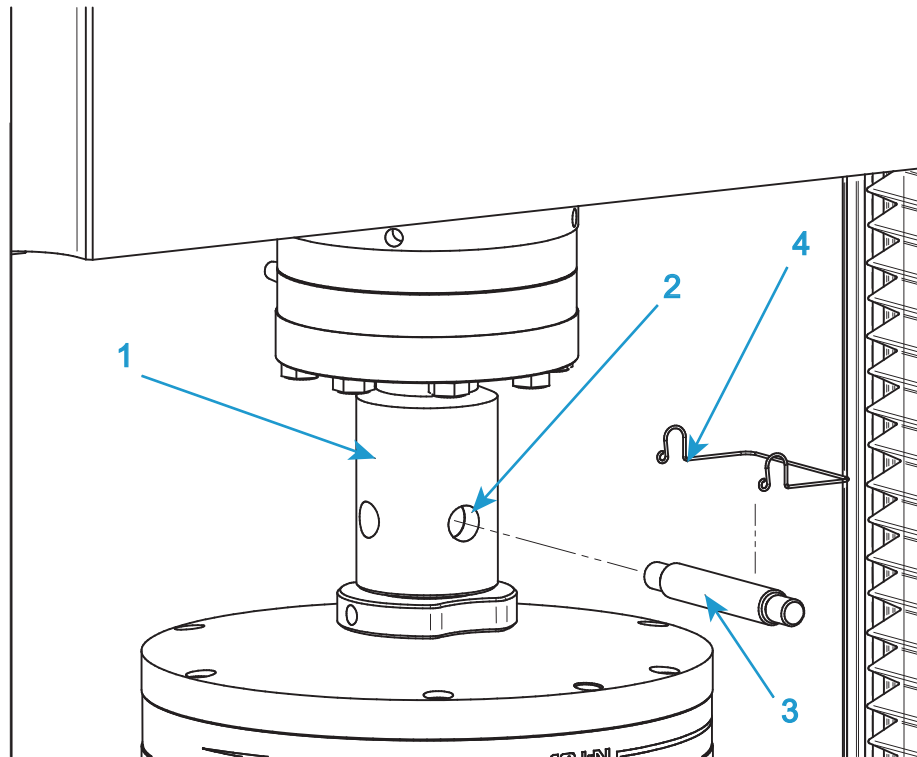

Figure 25. Typical grip installation
Refer to Figure 25 on page 107 when following this procedure.
1. For the upper grip, insert the adapter on the grip into the female clevis socket (1 in Figure 25) on the load cell adapter.
2. Align the clevis holes (2 in Figure 25) and insert the clevis pin (3 in Figure 25) through the holes.
3. Secure the clevis pin in position with the clevis pin clip (4 in Figure 25).